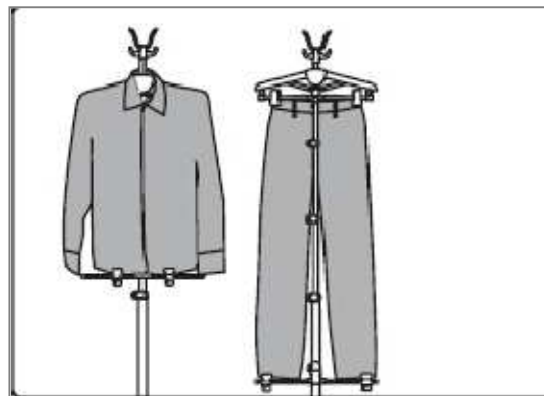

fig.25
- You can use the trouser stretcher (fig.25 –page.11) or simply use your free hand to stretch the garment. (fig.21 & fig.22)
(fig.25)